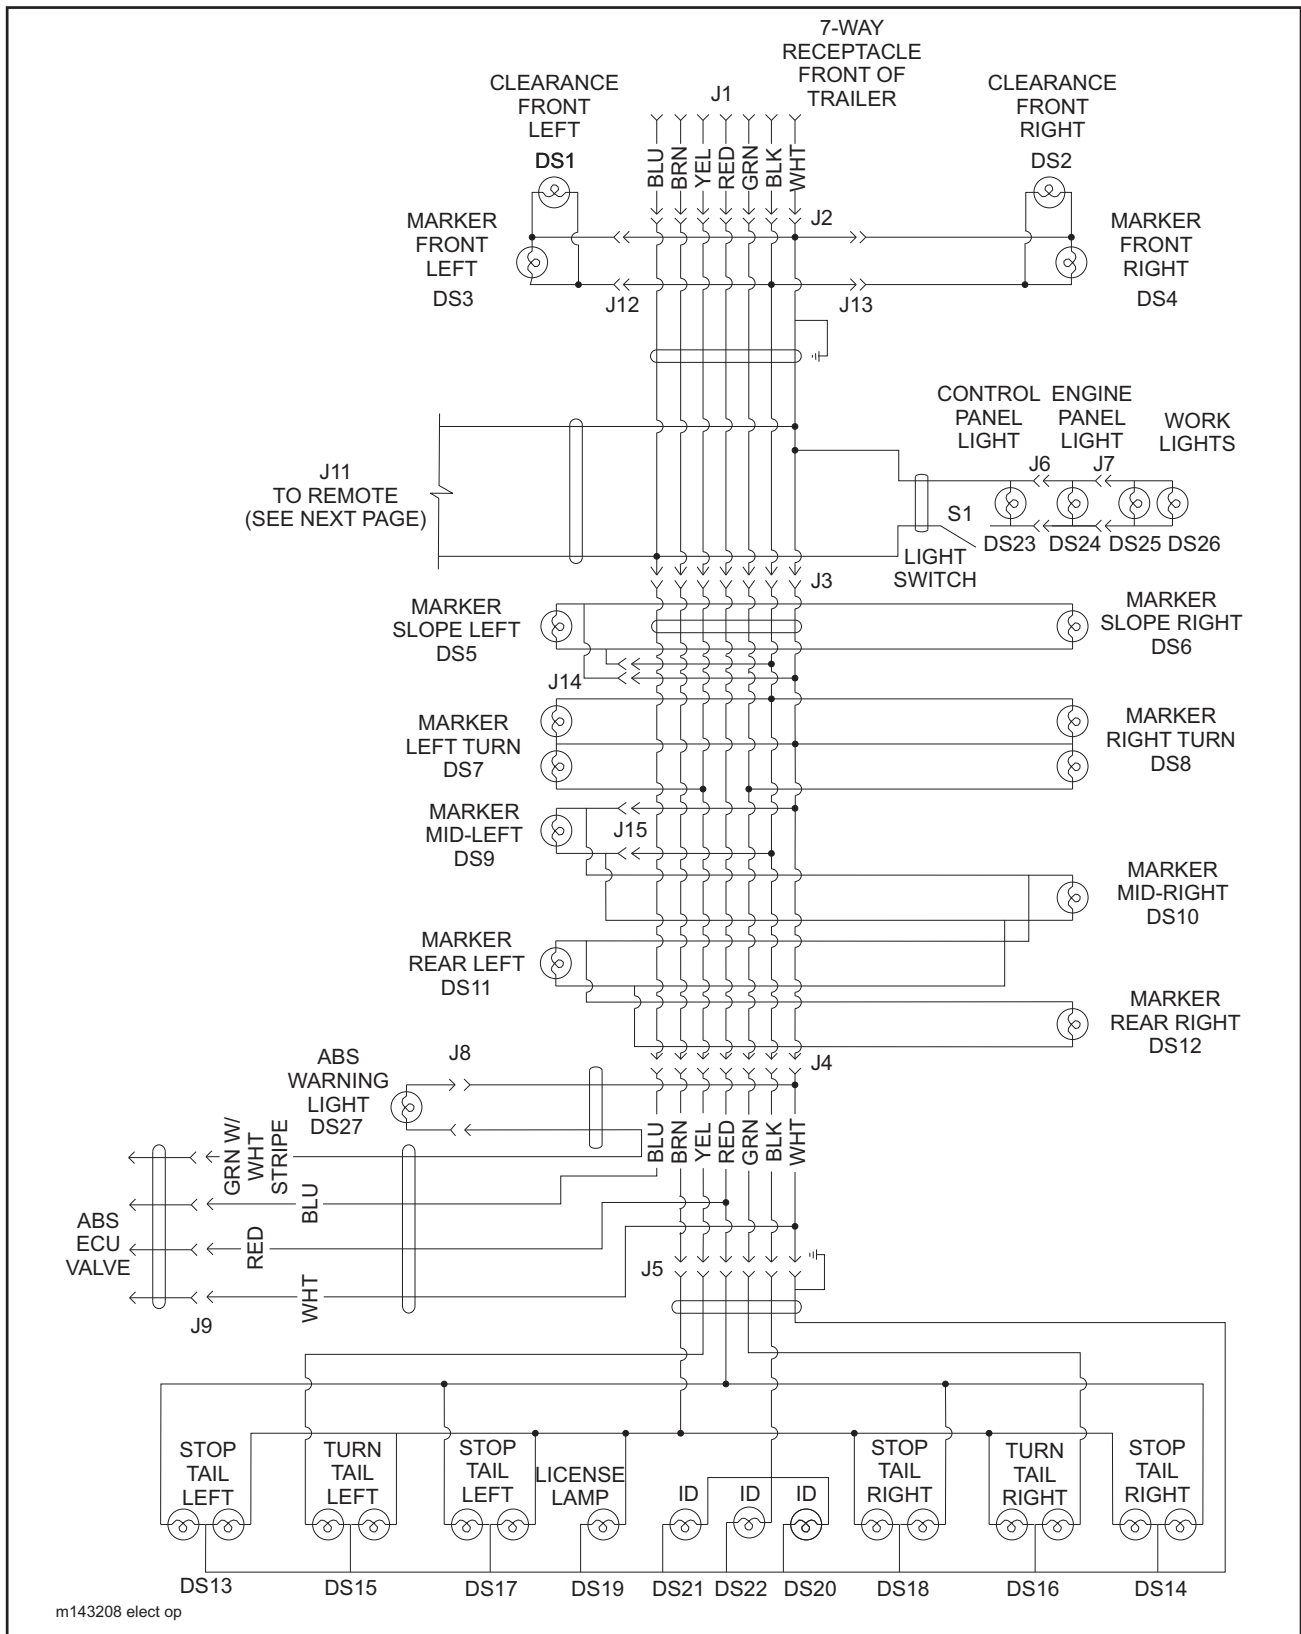

Figure 4-3 425B/440/455 Wiring Diagram
- 4-5.1** Maintenance of the electrical system consists of inspection and minor servicing. Any wire, connection or electrical component showing signs of corrosion, wear, breakage or unraveling must be repaired or replaced. (See Figures 4-3 and 4-4 for electrical wiring diagrams and Table 4-4 for wiring parts list)